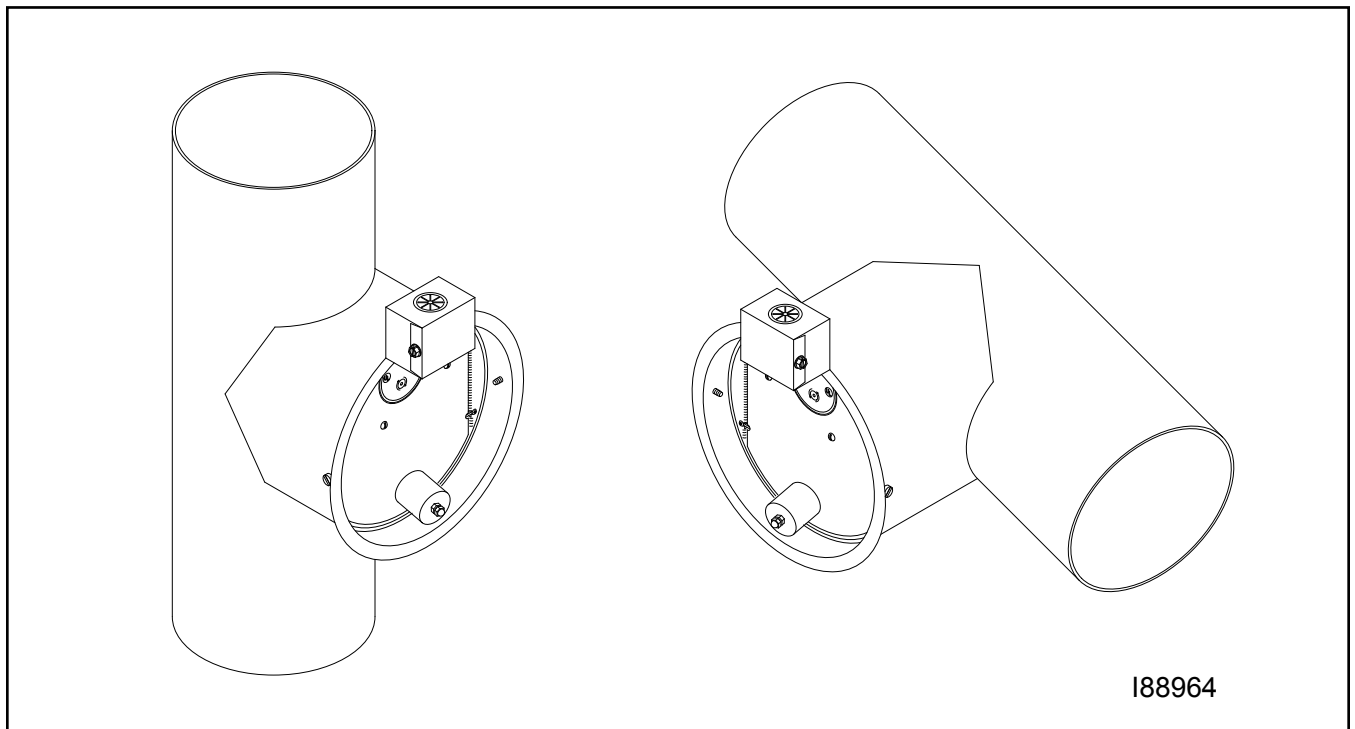

Figure 4L - Stack Safety Switch Installed on the Barometric Damper
3. Position the stack safety switch over the lip of the barometric damper as shown in Figure 4L.